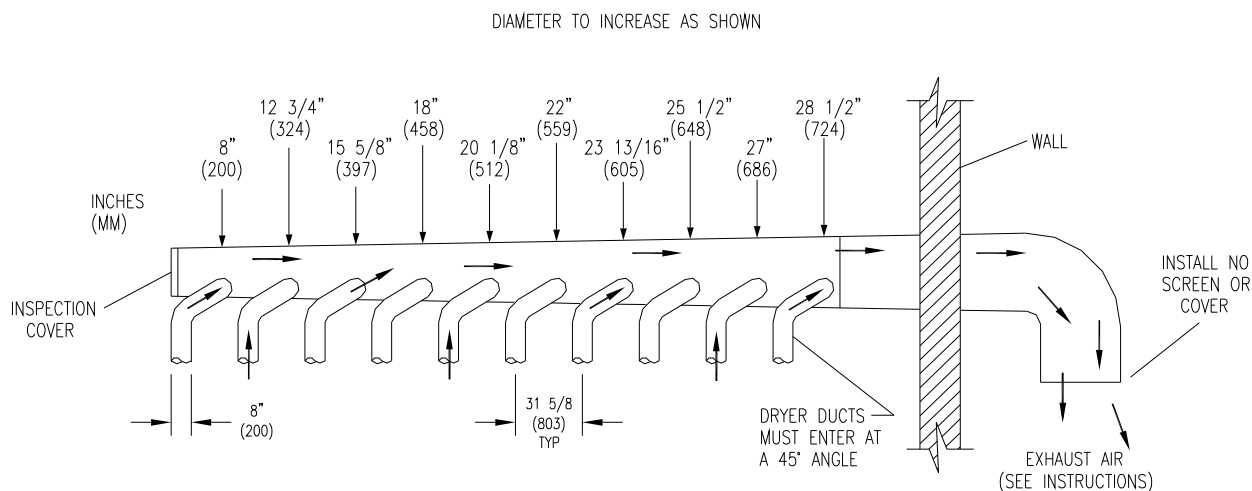

FIGURE 3- Dryer Exhausting Using A Main Discharge Duct.
**7. EXHAUST INSTALLATION.** (Refer to Figure 3 at the end of section 7.) Exhausting of the dryer(s) should be planned and constructed so that no air restrictions occur. Any restriction due to pipe size or type of installation can cause slow drying time, excessive heat, and lint in the room.
Installation of several dryers, where a main discharge duct is necessary, will need the following considerations for installation (see Figure 3). Individual 8" ducts from the dryers into the main discharge duct should be at a 45-degree angle in the direction of discharge airflow.
**NOTE:** Never install the individual 8" ducts at a right angle into the main discharge duct. The individual ducts from the dryers can enter at the sides or bottom of the main discharge duct. Figure 3 indicates the various round main duct diameters to use with the individual dryer ducts. The main duct can be rectangular or round, provided adequate airflow is maintained. For each individual dryer, the total exhausting (main discharge duct plus duct outlet from the dryer) should not exceed the equivalent of 14 ft (4.27m) and two elbows. The diameter of the main discharge duct at the last dryer must be maintained to exhaust end.